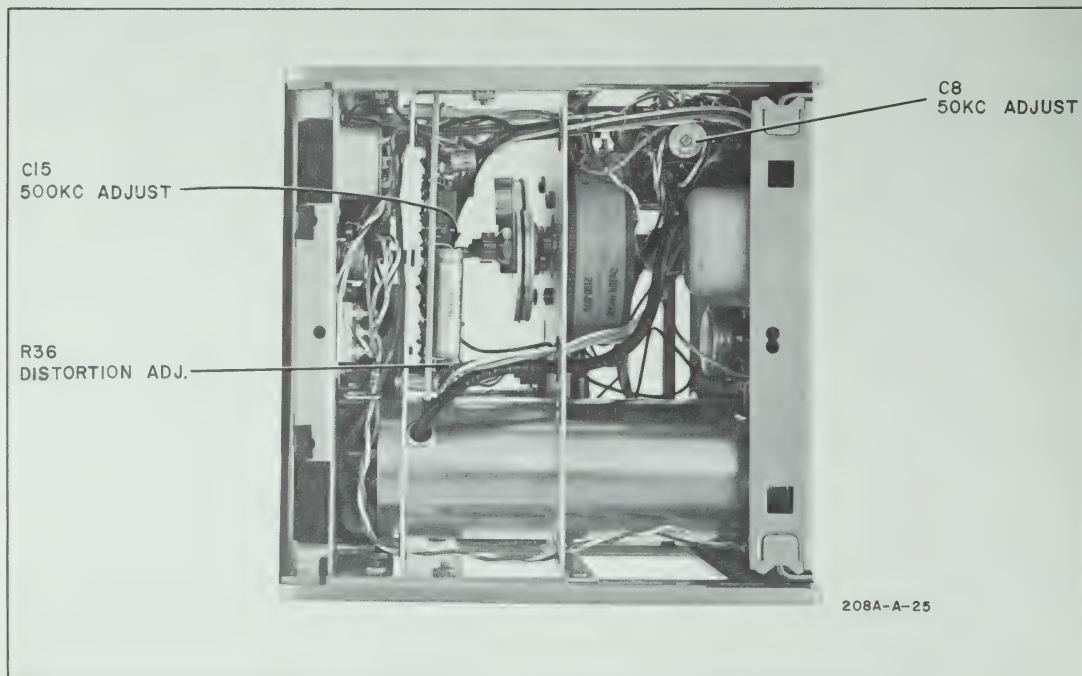

Figure 5-11. Bottom View
e. Measure distortion, and adjust R36 (refer to Figure 5-11) for minimum reading. Reading should be less than 1%.
m. Set FREQ. to 50 (500 Kc) and adjust C15 (Figure 5-11) to obtain a 500 Kc output.